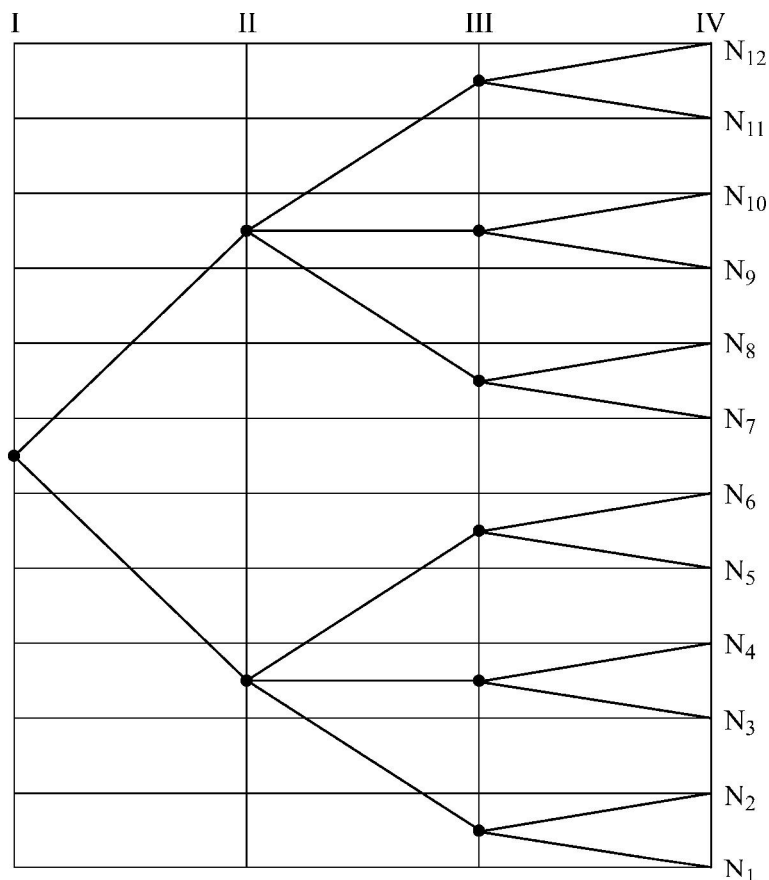

Figure 1.1 → structural diagram for 2(6) 3(2) 2(1)
- Answer following questions related to structural diagram in figure 1.1 :